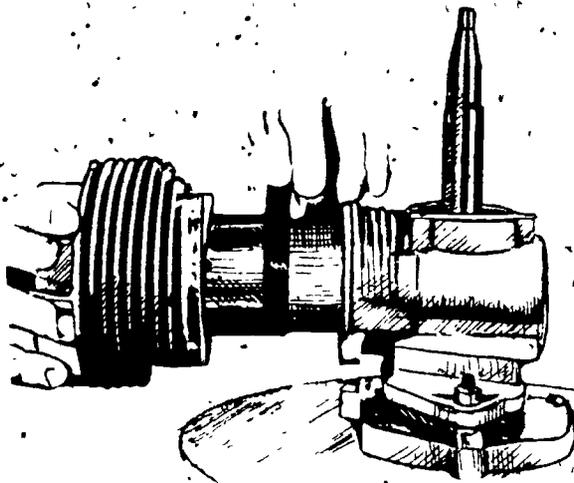

FIGURE 3
- H. Maintain pressure on rings and slide rings into cylinder (Figure 3)